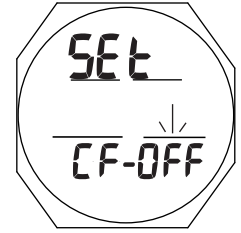

Fig. 52 - SET CONSERVATIVE FACTOR
**Set Conservative Factor (CF)**, information includes (Fig. 52):